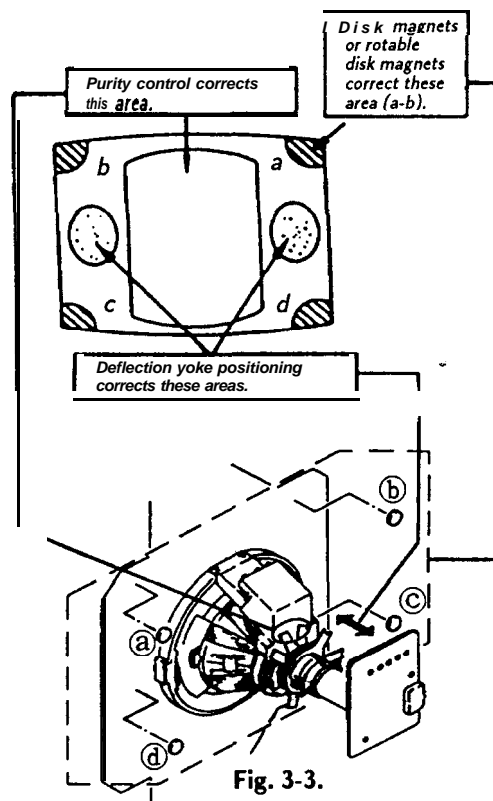

Fig. 3-3.
9. When landing is not right, adjust the purity control and use magnets as shown in Figure 3-3. Then repeat steps 7 and 8.